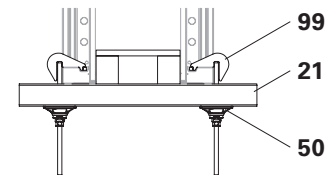

Fig. B7.04b
- Waler 85 (21) with Bulkhead Tie MX/TR (99) and Wingnut Pivot Plate DW15 ga (50). (Fig. B7.04b)